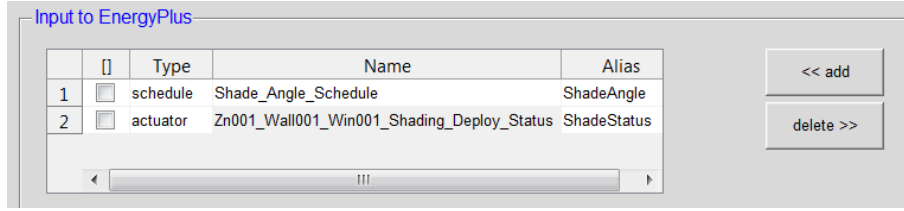
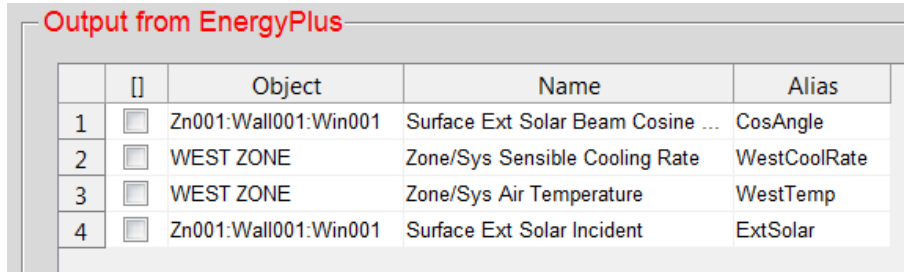

Figure 8: Configuration of input variables to EnergyPlus.
Figure 9: Configuration of output variables to EnergyPlus.
4. Add the necessary inputs and outputs to have the settings specified in (Figure 8) and (Figure 9), respectively. In this example, we specify `Shading_Deployment_Status` and `ShadeAngle_Schedule` as the
inputs to EnergyPlus as these are the variables that we will control through MLE+. Make sure your configuration is exactly the same as the one shown in (Figure 8) and (Figure 9).
In MLE+, an alias can be specified for each of the variables (Figure 8 and Figure 9). The alias allows the user to reference a variable with a more intuitive name and avoid the intricate names specified by EnergyPlus. For instance, the EnergyPlus variable `Zn001_Wall001_Win001_Shading_Deployment_Status` can be assigned a more intuitive name as `ShadeStatus`.